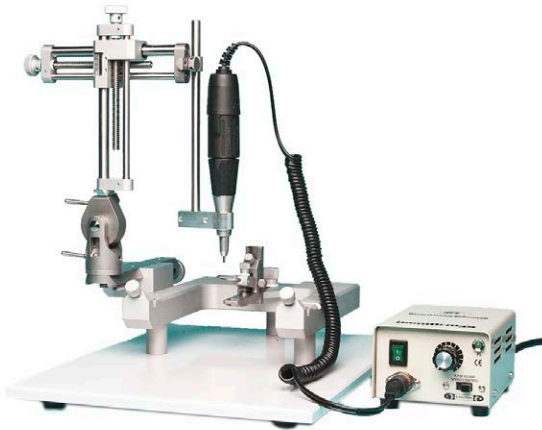

Fig. 5—OmniDrill35 mounted in a WPI stereotaxic frame
2. If desired, the OmniDrill can be mounted in WPI's stereotaxic frame ("Fig. 5—OmniDrill35 mounted in a WPI stereotaxic frame" on page 7) using the OmniDrill Mounting Probe for Stereotaxic Frames (WPI #502237).